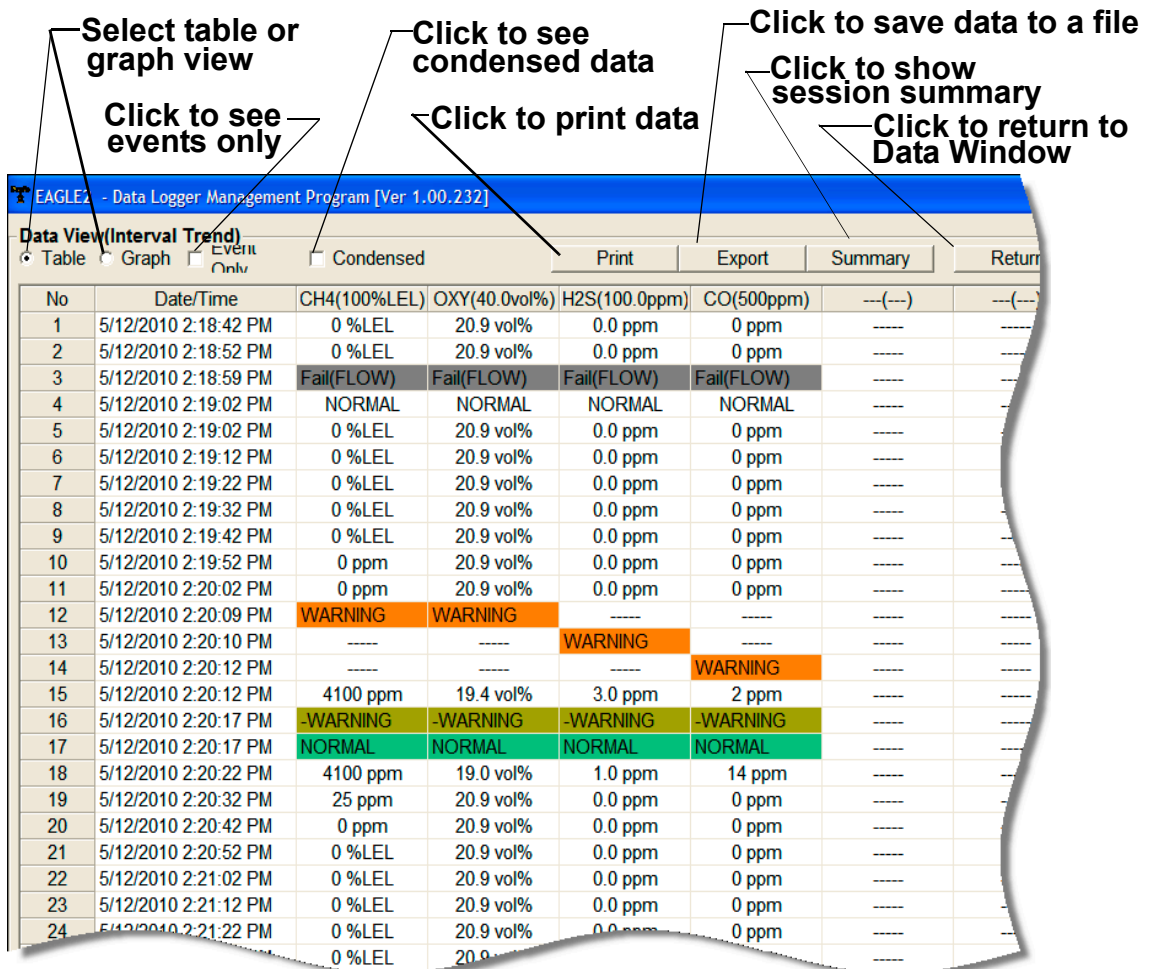

Figure 26: Interval Trend Data in Table Format
- Interval trend data can be viewed in either table or graph format by selecting the Table or Graph selection buttons. The example below in Figure 26 is shown in table format.